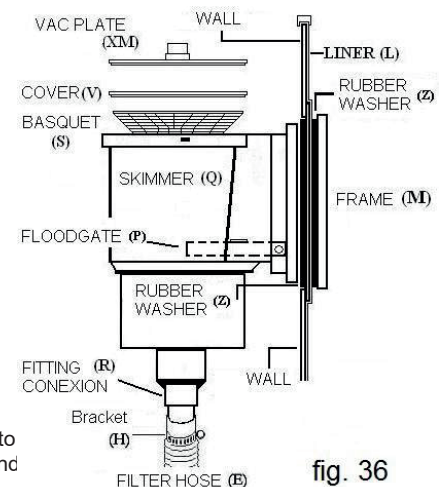

fig. 36
Place the double rubber washer (Z) on the steel wall. The steel wall and the casing must fit into the washer groove. Next, install the siphon frame with screws. Make sure that all holes are sealed (washer, hole and siphon). With screws, fix the holes one after the other until there is a perfect match, but do not tighten them too much. Start fixing and finally tighten the screws in the same order, fig. 36.